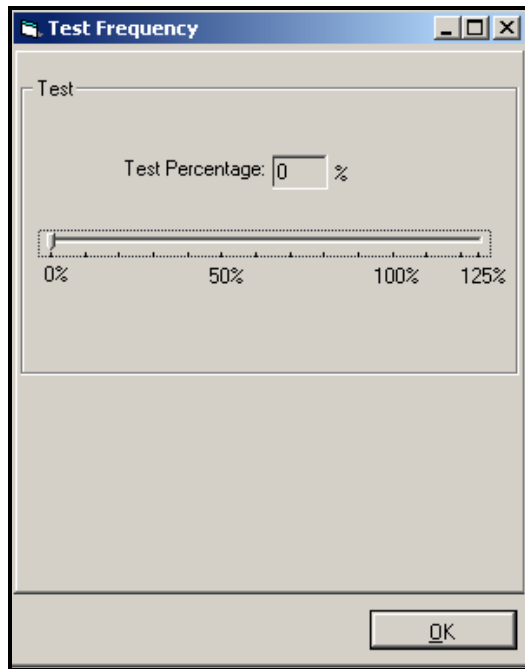

Figure 31: Test Frequency Window
3. The screen should now look similar to Figure 31 below. Use the mouse to move the Test Percentage pointer to 0%. Read the frequency value on the oscilloscope. The oscilloscope should read the Zero value. Next, set the Test Percentage pointer to 100%. Read the frequency off the oscilloscope. The oscilloscope should read the Span value.